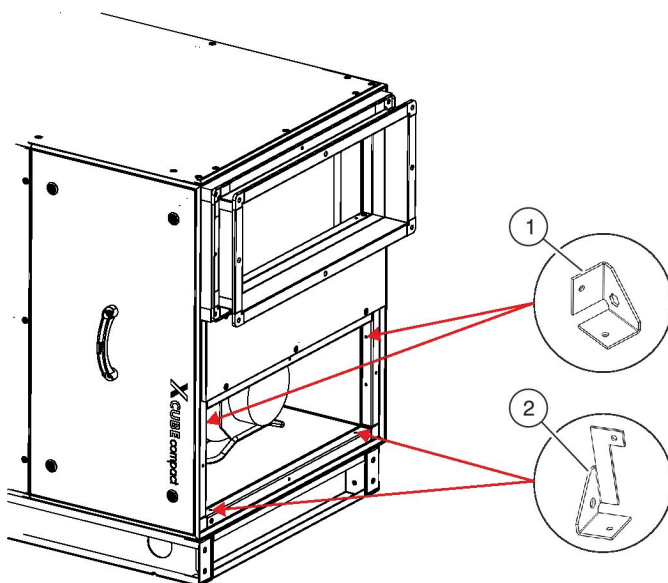

Fig. 22: Gusset plates
1. ▶ Screw-fix two standard gusset plates ( Fig. 22 /1 ) to the upper holes using the supplied screws.
2. ▶ Screw-fix two gusset plates with cut-out ( Fig. 22 /2 ) to the lower holes using the supplied screws.